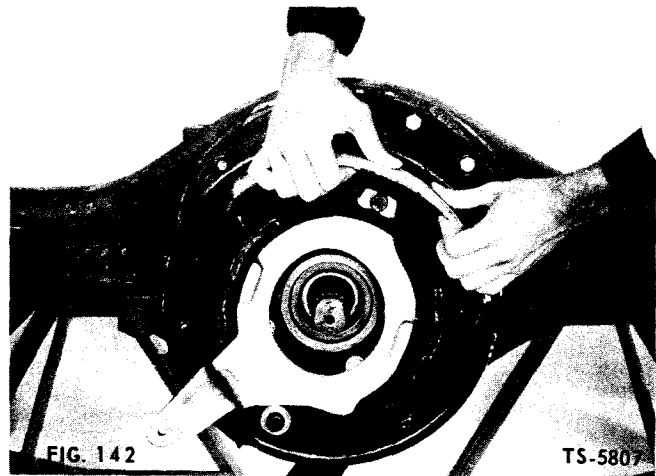

FIG. 142
5. Position brake shoe assemblies on backing plate (Fig. 142).